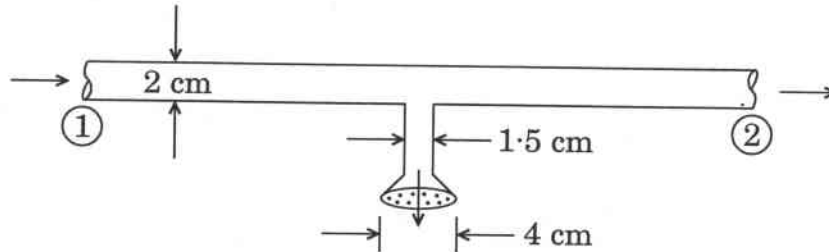

Figure 5(a)
- Q5.** (a) Water flows steadily through the piping junction, entering section ① at $0.12 \text{ m}^3/\text{min}$. The average velocity at the section ② is 2.2 m/sec . A portion of the flow is diverted through the showerhead, which contains 100 holes of 1 mm diameter. Assuming uniform shower flow, estimate the exit velocity from the showerhead jets. Take density of water = 1000 kg/m^3 . (Please refer Figure 5(a))